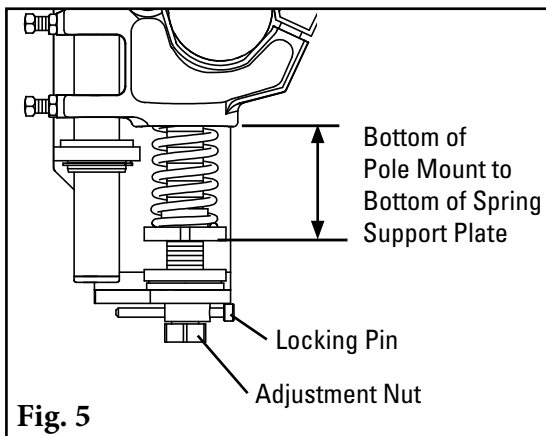

Fig. 5
5. **Set the blade tension.** Turn the adjustment nuts until the correct spring compression is reached (Fig. 5). Spring compression is determined by the spring length. See the chart below for the correct spring length for your belt width. Replace locking pins.
5. **Set adjusting rod sleeve.** After setting the blade tension, screw the adjusting rod sleeve(s) into the UHMW bushing until 1-1/2" (38mm) is showing (Fig. 5). Tighten the adjusting rod sleeve jam nut.